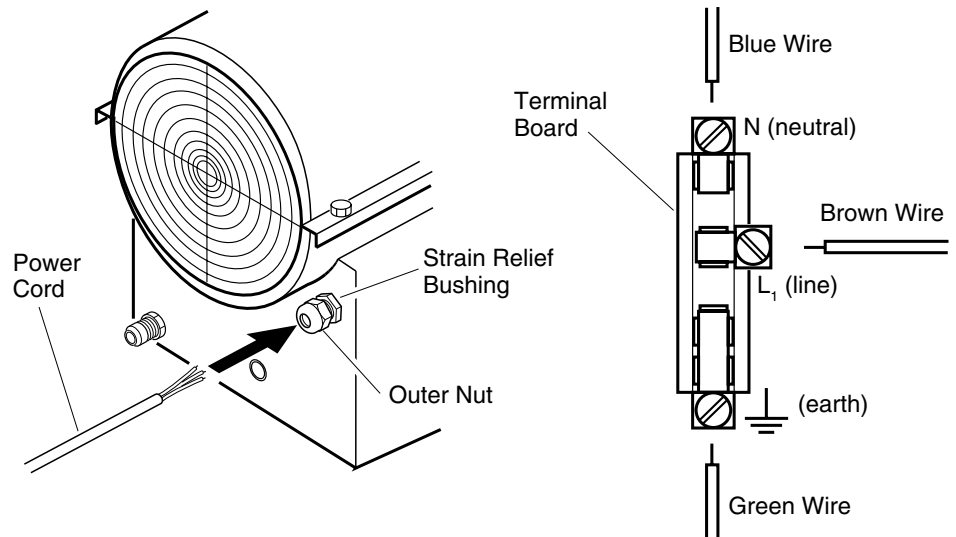

Figure 4 - Attaching Power Cord
2. Locate the strain relief bushing for the power cord on the heater base (see Figure 4).
3. Unscrew outer nut of strain relief bushing (see Figure 4). Only loosen this nut. Do not remove it.
6. Attach power cord wires to terminal board. Figure 4 shows the exact placement of each wire. Attach green wire to the earth terminal. Attach brown wire to the L_1 terminal. Attach blue wire to the neutral terminal.